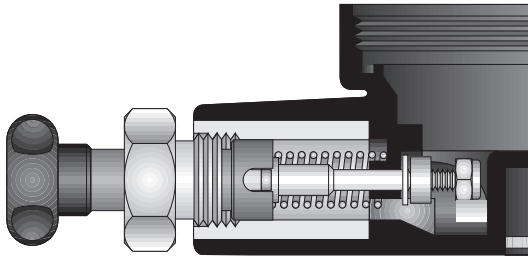

Fig. 7 – Genesis Poppet Drive Tool
14. Mate the Poppet Drive Tool (provided in the Genesis Poppet Tool Kit, PN 20-640-100) into the inlet tube of the second stage, and turn the knob slightly in either direction to engage the driver with the poppet(14). (See Fig. 7.) Then, turn the hex nut clockwise by hand until lightly snug to fasten the tool onto the second stage.
15. Press the knob of the tool inward to compress the poppet spring until the arms of the lever(6) are visible, and pull the lever out of the second stage. Relax the tool. Examine the lever arm and compare with new to ensure that it is not bent or distorted in any way. Discard if damage is found.